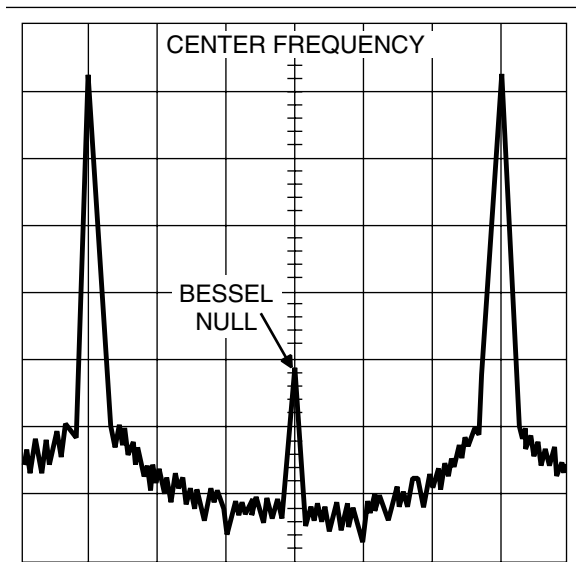

Figure 4-10. Typical Spectrum Analyzer Display of Bessel Null on FM Waveform
- e. While observing the first Bessel null (Figure 4-10) on the Spectrum Analyzer display, adjust
- f. While observing the first Bessel null (Figure 4-10) on the Spectrum Analyzer display, adjust the value of the DAC's setting to reduce the carrier level as low as possible.